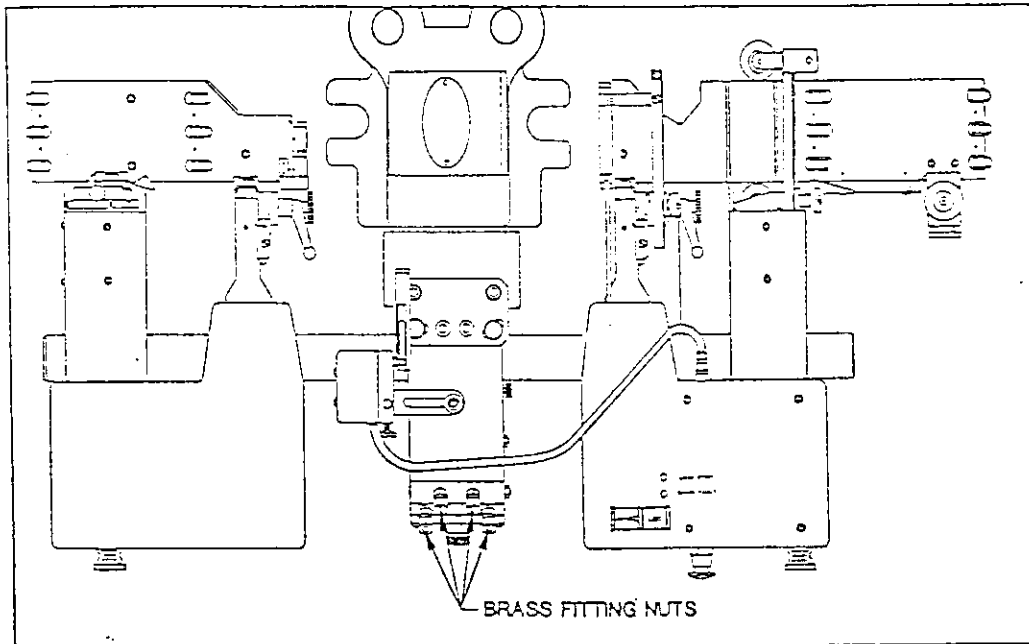

Figure 1-17
STEP 17: Unscrew brass fitting nuts from mounting bar assembly. See Figure 1-17. Under each nut is a brass ferrule (ring). Remove ferrules.